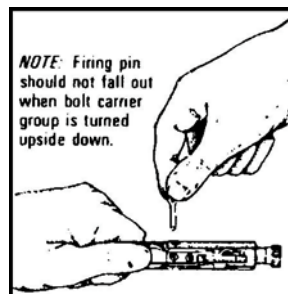

Figure 30. Placing the firing pin retaining pin.
- g. Put the firing pin retaining pin in the bolt carrier to seat it (Figure 30).